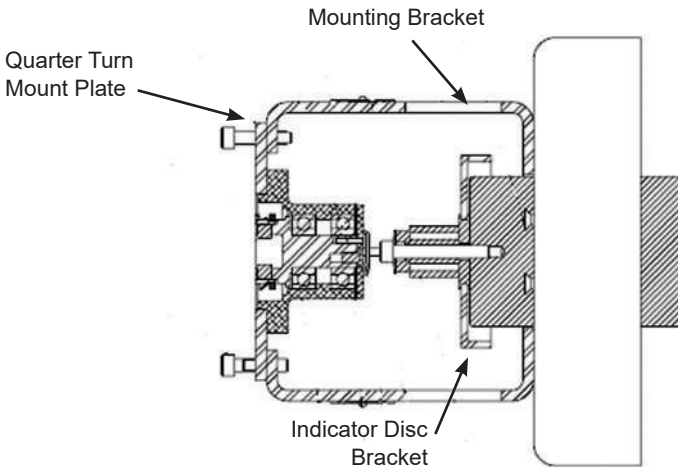

Figure 4 - Namur 20/30mm Mounting Kit
- 4 mm hex key Refer to Figure 4 for this procedure.